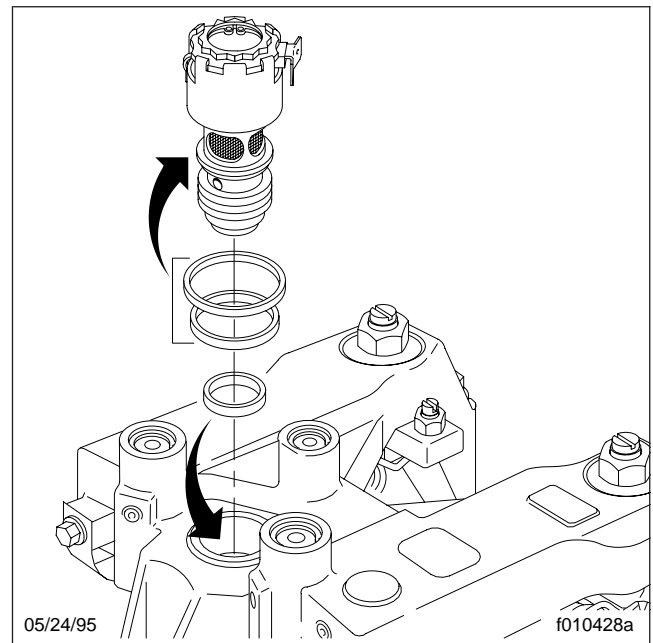

Fig. 3, Install the Seal Rings
1. Coat a new set of solenoid seal rings with clean lubricating oil. Install the upper and middle seal rings on the solenoid body and the lower seal ring into the bottom of the solenoid bore in the housing. See Fig. 3.